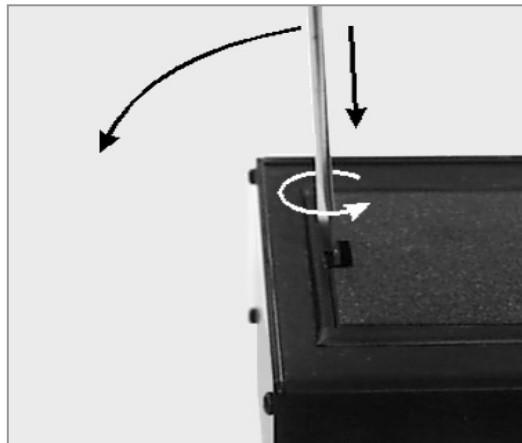

Figure 5-2. Removing Battery Compartment Cover.
- 2 On the back side of the unit perform the following (Figure 5-2):